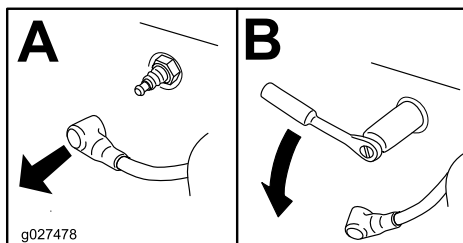

Figure 51
4. Locate and remove the spark plug(s) as shown in Figure 51.